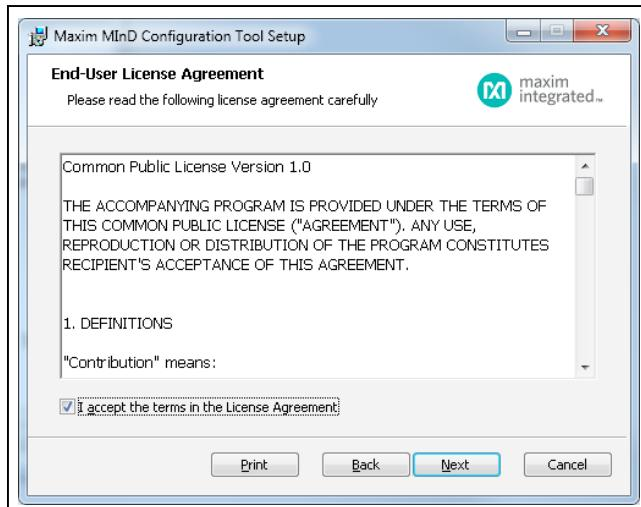

Figure 4. Software Install (Step 2)
- 2) Accept the terms in the License Agreement and click **Next** (Figure 4).